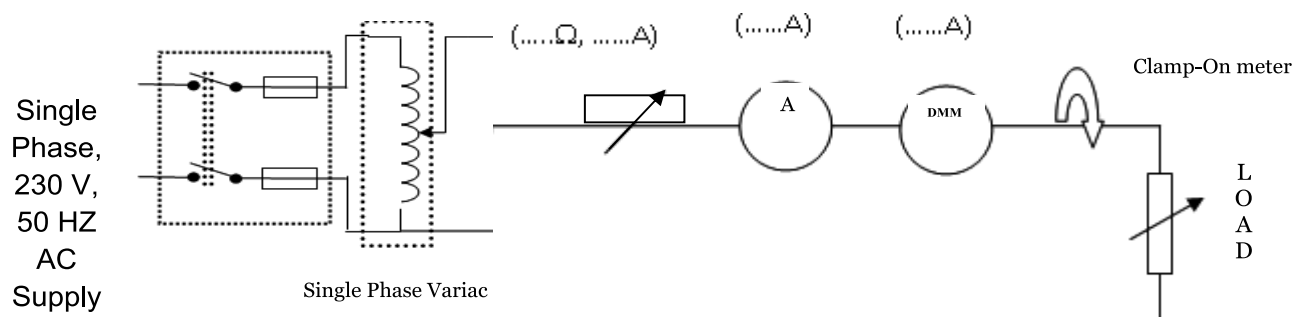

Figure 2: Measurement of AC current
1. Connect as per circuit shown in Figure 2 for measurement of AC current.